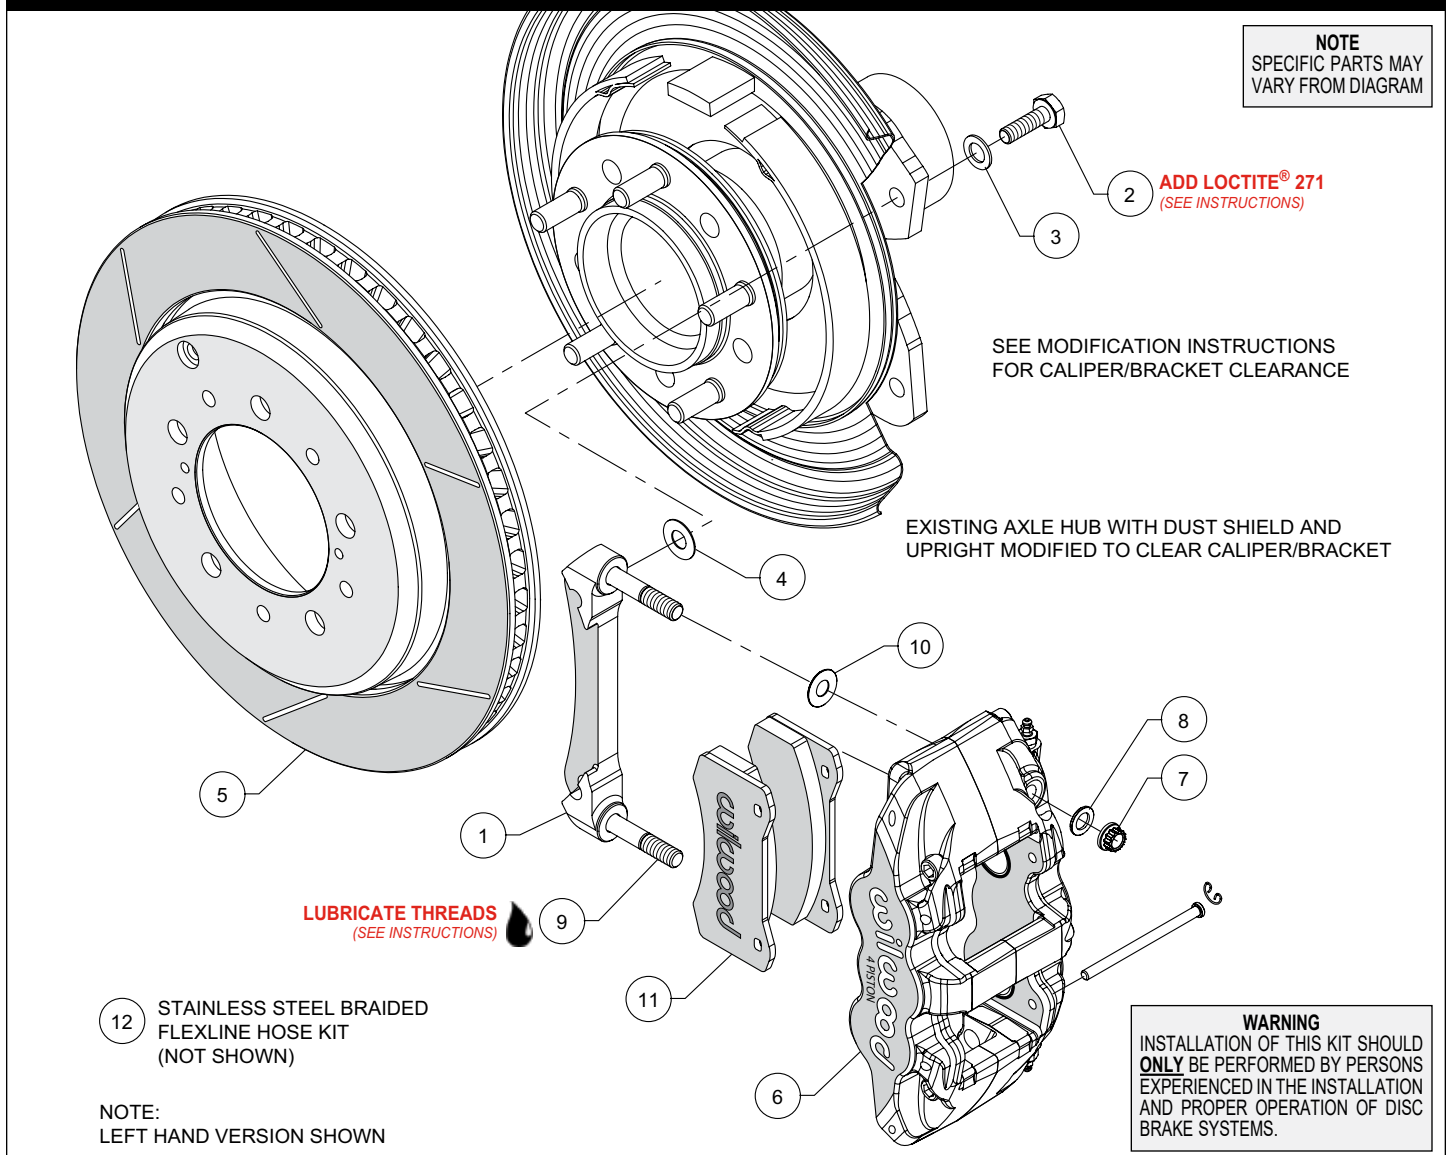

Figure 1. Typical Installation Configuration
NOTE: Numbers in parenthesis refer to the parts list and Figure 1 on the preceding pages.
•The caliper mount bracket (1) should initially be installed with clean, dry threads on the mounting bolts. Orient the bracket as shown in Figure 1 and Photo 1, and install using bolts (2) and washers (3). Initially place one .029 thick shim (4) on each bolt between the bracket and upright, Figure 1. Temporarily tighten the mounting bolts. **NOTE:** The bracket must fit squarely against the mount bosses on the upright. Inspect for interference from casting irregularities, machining ridges, burrs, etc. Later, after the caliper alignment has been checked, the mount bolts will be secured using red Loctite® 271.
•Lubricate the caliper mounting studs (9) with lightweight oil. Initially place one .030" thick shim (10) on each stud as shown in Figure 1 and Photo 3. Mount the caliper (6) onto the bracket (1) using lock nuts (7) and washers (8), Figure 1. Temporarily tighten the lock nuts and view the rotor through the top opening of the caliper. The rotor should be centered in the caliper, Photo 4. If not, adjust by adding or subtracting shims (4) between the bracket (1) and the upright. Always use the same amount of shims on each of the two mounting bolts (2). Once the caliper alignment is correct, remove the bracket mounting bolts (2) one at a time, apply red Loctite® 271 to the threads, and torque to 105 ft-lb.
- Remove the caliper (6), then remove the two pad retaining pins from the caliper by carefully popping out the pin retaining clips and sliding out the pins. Insert the brake pads (11) into the caliper from the bottom, Figure 1 and Photo 5. With the friction material facing the rotor, secure the brake pads in place with the pad retaining pins and clips, Photo 6. Reinstall the caliper onto the caliper mounting bracket and temporarily tighten the lock nuts. Check that the top of the brake pad is flush with the outside diameter of the rotor, Photo 7. If not, adjust by adding or subtracting shims (10) between the caliper and the bracket. After the caliper pad height is set, torque the caliper lock nuts (7) to 47 ft-lb.